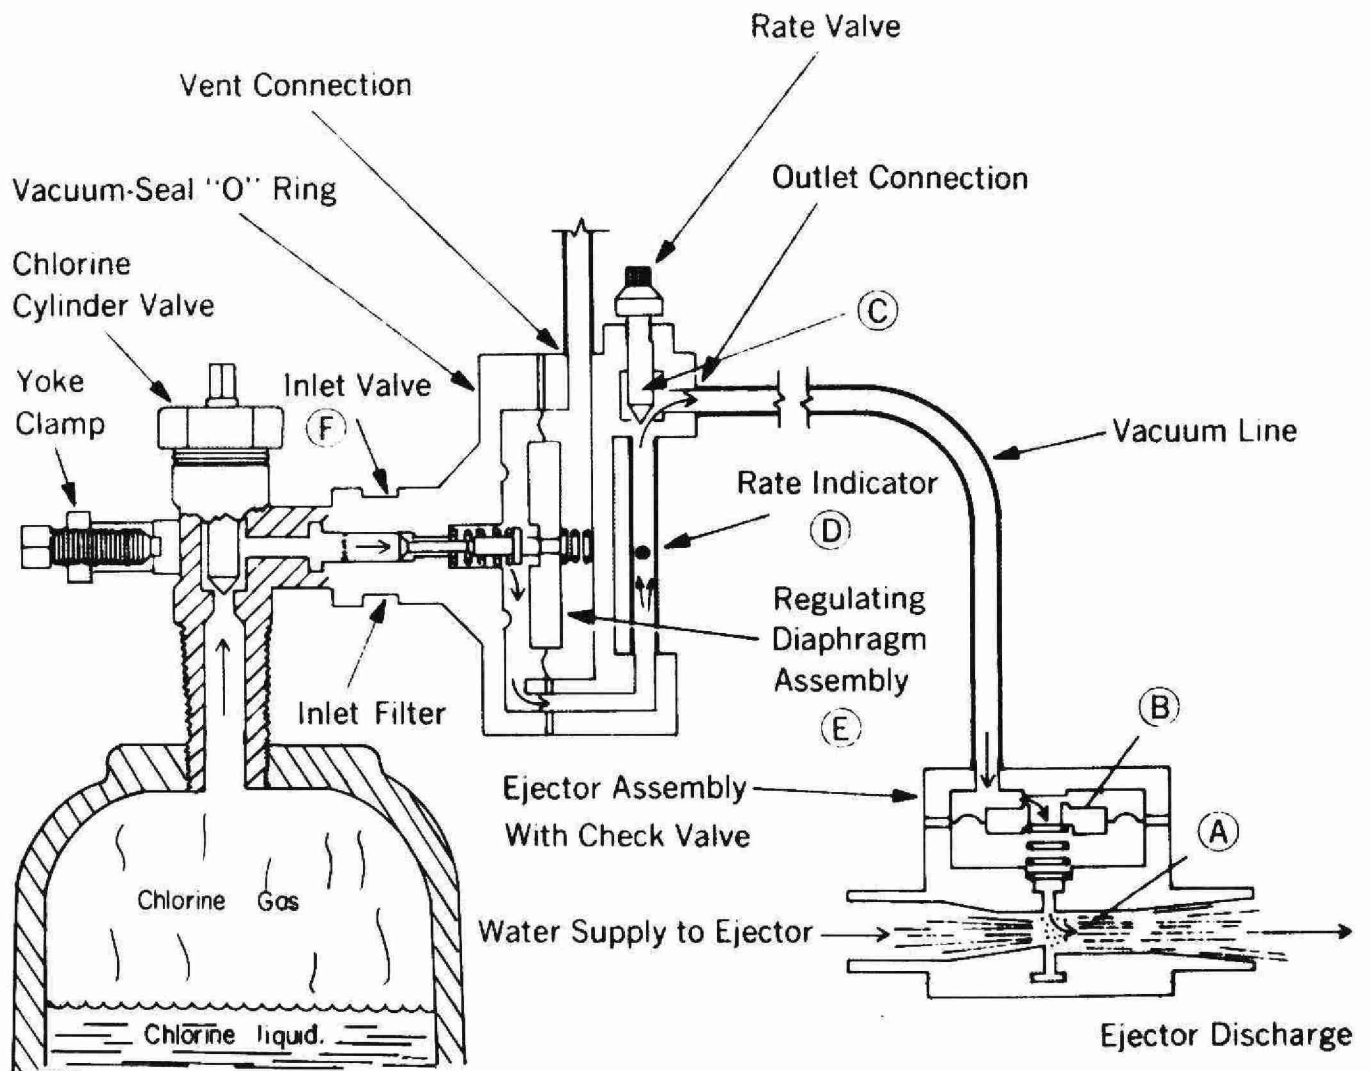

Figure 4-9 ADVANCE GAS CHLORINATOR
Figure 4-9 illustrates the flow diagram for the Advance Chlorinator. Water passing through the injector under pressure at point (A) forms a vacuum and causes diaphragm (B) to be pulled away from the seat. This allows the vacuum to be transmitted to the rate valve (C). If the rate valve is open, the vacuum is transmitted through the rate indicator (D) to the regulating assembly (E). This pulls the regulating diaphragm